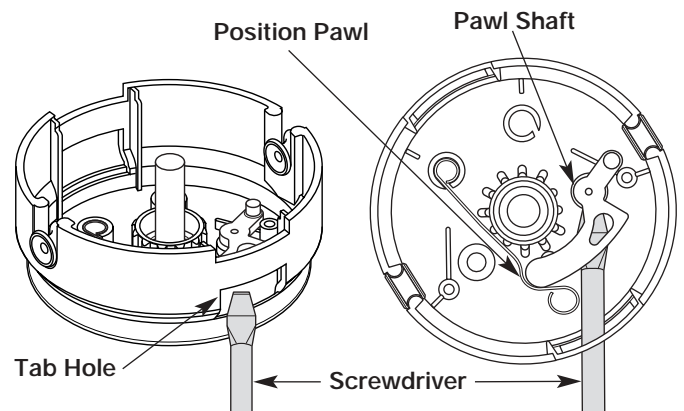

Fig. 18
1. Position the pawl so that it is hooked by the spring (Fig. 18).
2. Slide a medium sized flat bladed screwdriver through the tab hole in the outer spool and under the pawl (Fig. 18). Position the end of the screwdriver next to the pawl shaft.